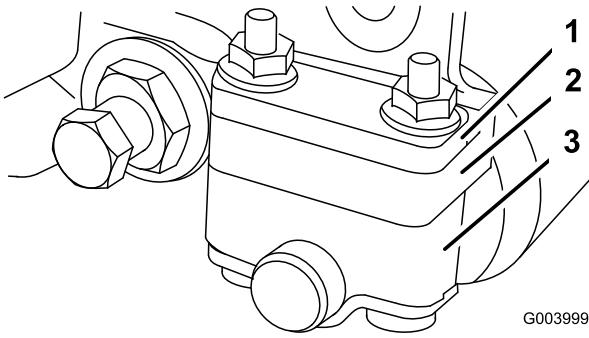
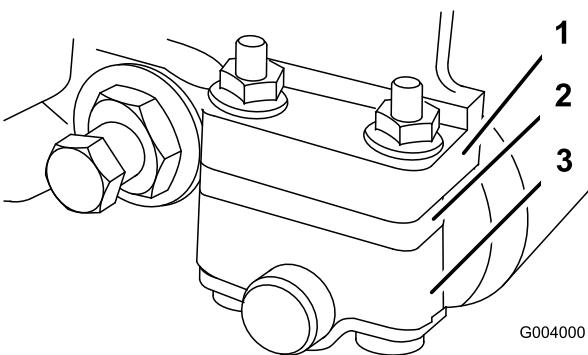

Figure 51
Figure 52
1. Adjust the rear roller brackets to the low or high position depending on desired height of cut range (Figure 51 and Figure 52).
- Position the spacer below the sideplate mounting flange when height of cut settings range from  $1/8"$  to  $1"$  (Figure 52).